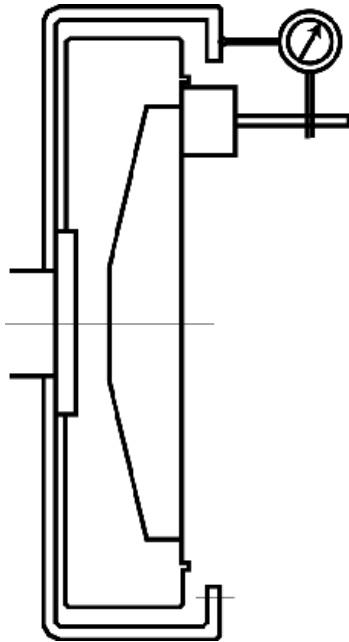

FIGURE 3
4.1.1 Flywheel to housing face runout check. (see Figure 3)